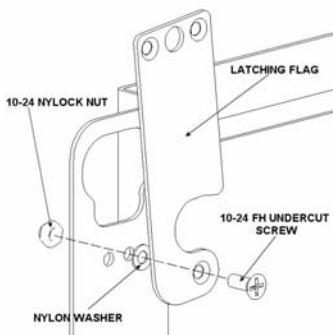

Figure 2
1. Using two 10-24 x .5 FH undercut screws, Nylon washers between safety latch and mount, and 10-24 Nylock nuts, install the safety latches on the inside holes loose enough to move but tight enough to remain in place when raised (see Figure 2).